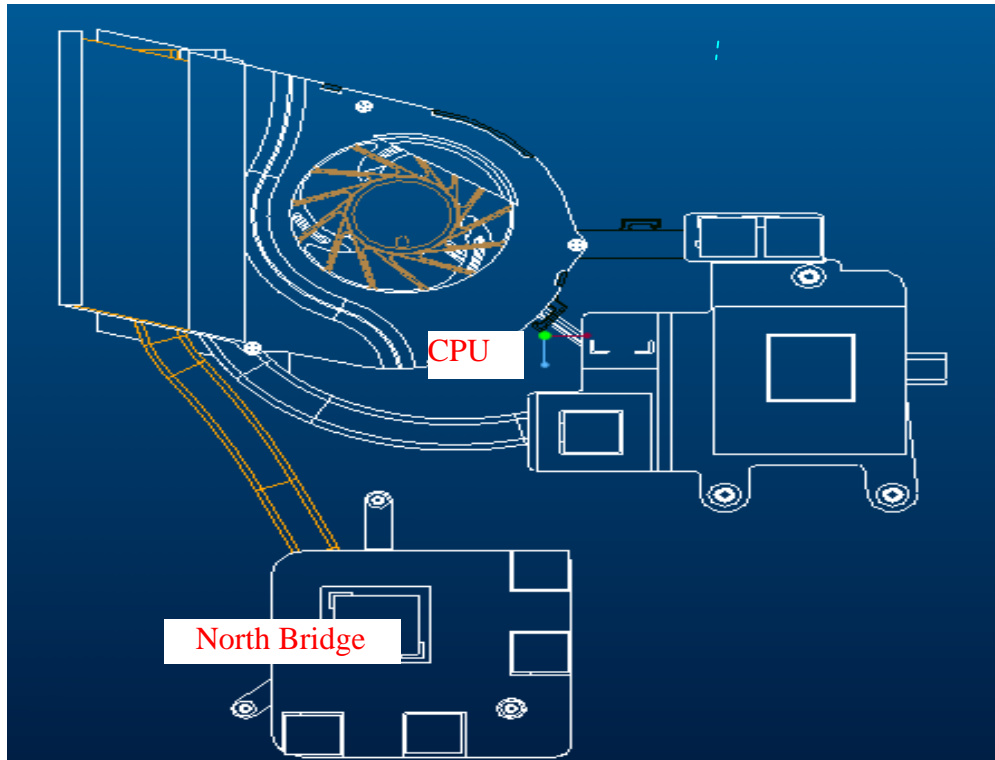

Figure 4-21-1 Intel &AMD Thermal grease on North Bridge and CPU
I. The thermal grease on North Bridge and CPU(See Figure 4-21-1)